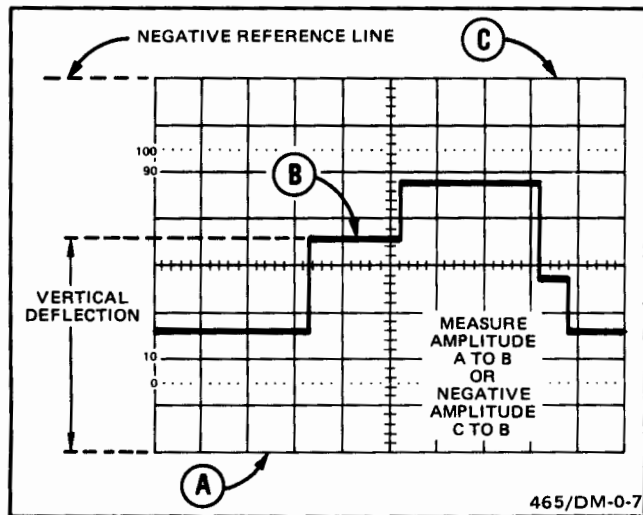

Figure 15. Instantaneous voltage measurement.
- Switch the AC-GND-DC switch to DC. Measure the divisions of vertical deflection between the reference line and the desired point on the waveform (see Figure 15).
**EXAMPLE:** The vertical distance measured is 4.6 divisions (see Figure 15). The waveform is above the reference line, and the VOLTS/DIV switch is set to 2.